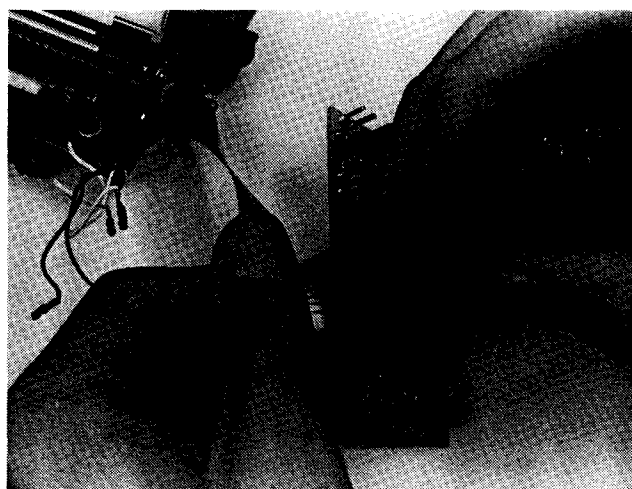
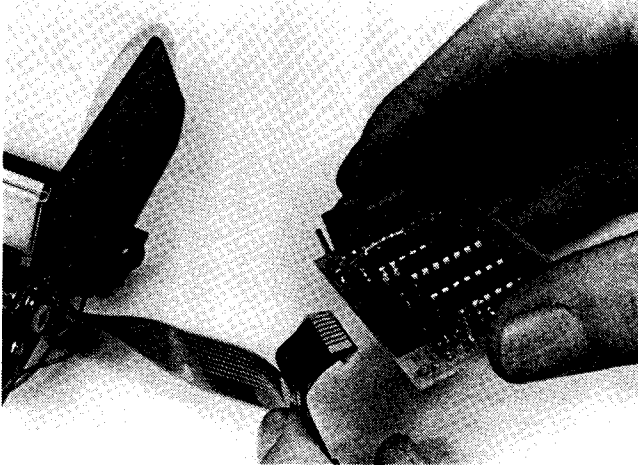

Figure 4-12. Print Head Cable Removal
Figure 4-13. Print Head Cable Insertion
- c. Disconnect the head cable from the printer PCA by inserting the small end of the connector tool into the head connector, positioned between the connector pins and the cable, and pulling out on the cable. (See figure 4-12.) To reinsert the cable, place the connector tool in the fold of the cable and carefully insert them together into the connector with the fold facing the circuit side of the board (see figure 4-13). Ensure that the cable con-